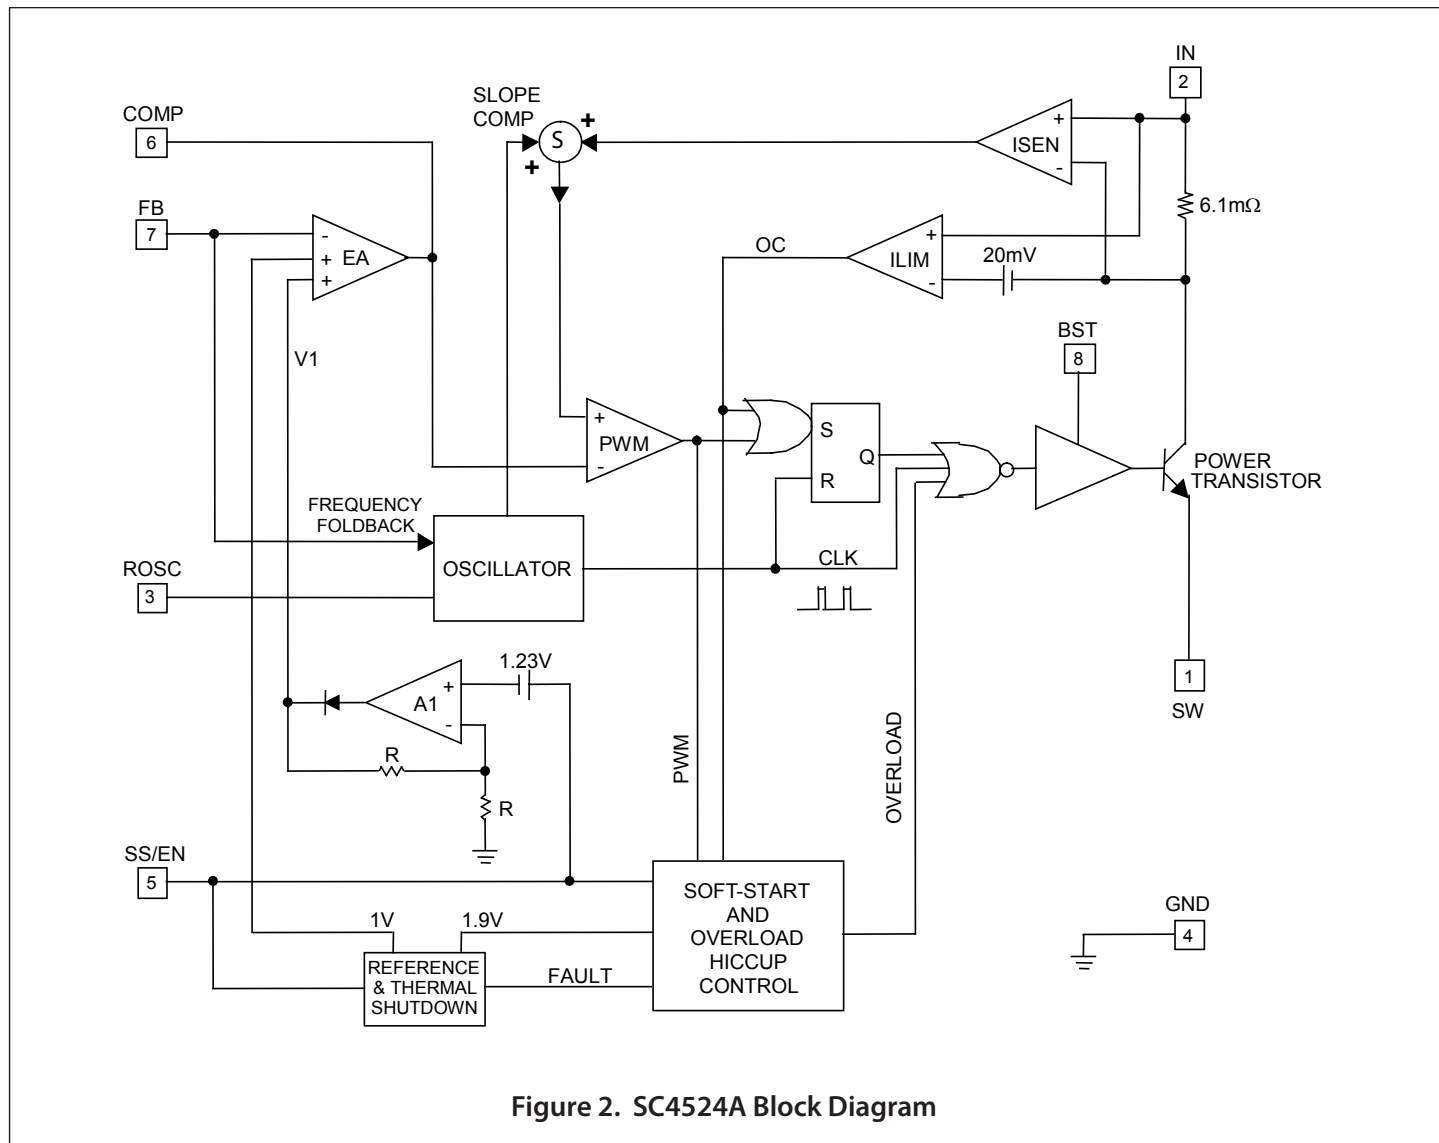

Figure 2. SC4524A Block Diagram
As shown in Figure 2, the switch collector current is sensed with an integrated 6.1mΩ sense resistor. The sensed current is summed with a slope-compensating ramp before it is compared with the transconductance error amplifier (EA) output. The PWM comparator trip point determines the switch turn-on pulse width. The current-limit comparator ILIM turns off the power switch when the sensed signal exceeds the 20mV current-limit threshold.
The error amplifier EA in Figure 2 has two non-inverting inputs. The non-inverting input with the lower voltage predominates. One of the non-inverting inputs is biased to a precision 1V reference and the other non-inverting input is tied to the output of the amplifier A_1 . Amplifier A_1 produces an output $V_1 = 2(V_{SS/EN} - 1.23V)$. V_1 is zero and COMP is forced low when $V_{SS/EN}$ is below 1.23V. During start up, the effective non-inverting input of EA stays at zero until the soft-start capacitor is charged above 1.23V. Once $V_{SS/EN}$ exceeds 1.23V, COMP is released. The regulator starts to switch when V_{COMP} rises above 0.4V. If the soft-start interval is made sufficiently long, then the FB voltage (hence the output voltage) will track V_1 during start up. $V_{SS/EN}$ must be at least 1.83V for the output to achieve regulation. Proper soft-start prevents output overshoot. Current drawn from the input supply is also well controlled.
As the load draws more current from the regulator, the current-limit comparator ILIM (Figure 2) will eventually limit the switch current on a cycle-by-cycle basis. The over-current signal OC goes high, setting the latch B₃. The soft-start capacitor is discharged with (I_D - I_C) (Figure 3). If the inductor current falls below the current limit and the PWM comparator instead turns off the switch, then latch B₃ will be reset and I_C will recharge the soft-start capacitor. If over-current condition persists or OC becomes asserted more often than PWM over a period of time, then the soft-start capacitor will be discharged below 1.9V. At this juncture, comparator B₄ sets the overload latch B₂. The soft-start capacitor will be continuously discharged with (I_D - I_C). The COMP pin is immediately pulled to ground. The switching regulator is shut off until the soft-start capacitor is discharged below 1.0V. At this moment, the overload latch is reset. The soft-start capacitor is recharged and the converter again undergoes soft-start. The regulator will go through soft-start, overload shutdown and restart until it is no longer overloaded.
The PWM latch in Figure 2 is reset every cycle by the clock. The clock also turns off the power transistor to refresh the bootstrap capacitor. This minimum off time limits the attainable duty cycle of the regulator at a given switching frequency. The measured minimum off time is 100ns typically. If the required duty cycle is higher than the attainable maximum, then the output voltage will not be able to reach its set value in continuous-conduction mode.